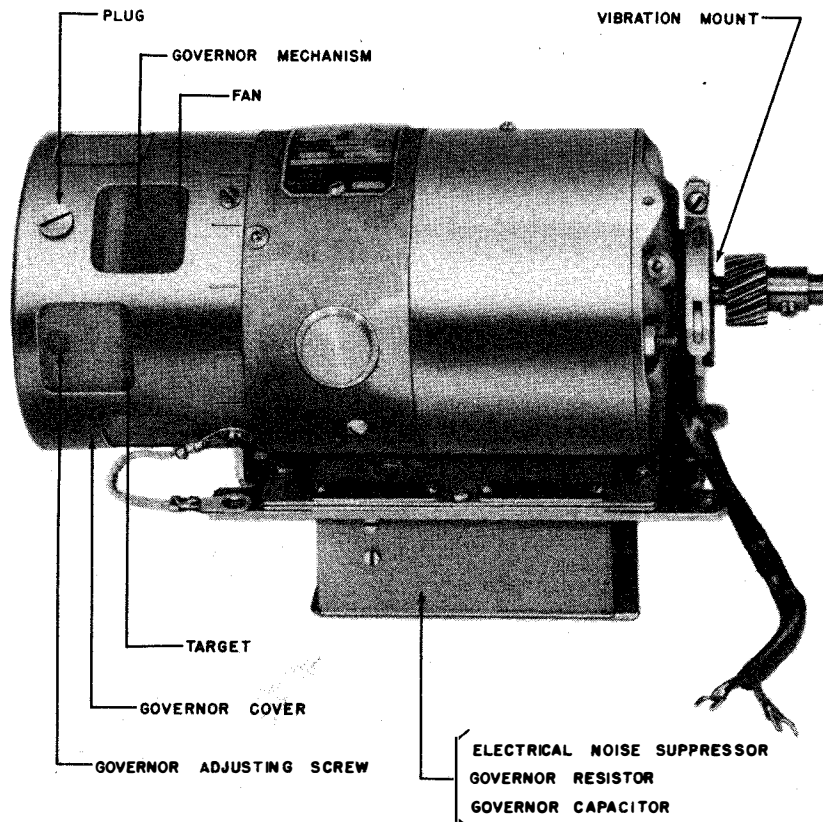

Figure 1-10. AC Motor PD-18/U, Governed
(3) AC MOTOR (GOVERNED) PD-18/U. (See figure 1-10.)